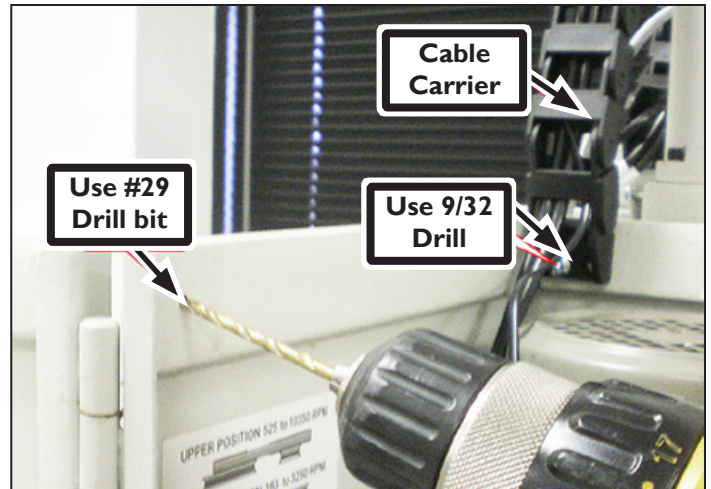

Figure 18
6. Position the Cable Carrier as shown in **Figure 18** and mark the location of one of the mounting holes. Using a 9/32 drill bit, make a hole through the two sheet metal layers of the spindle cover. Using the 1/4 inch screw, nut, and washer, mount the Cable Carrier to the spindle cover.
7. Using a #29 drill bit, make a hole though just one layer of the spindle cover in the position shown in **Figure 18**.